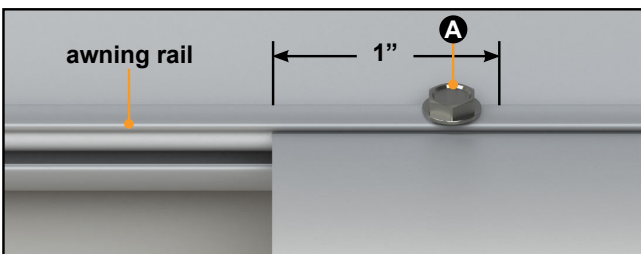

Fig.12
2. Secure the fabric in the awning rail no more than 1" inside the edge of the fabric on both ends using a #6 x 1/2" hex head self-tapping screw. Install the screw into the awning rail into the fabric and the polycord (Fig.12).